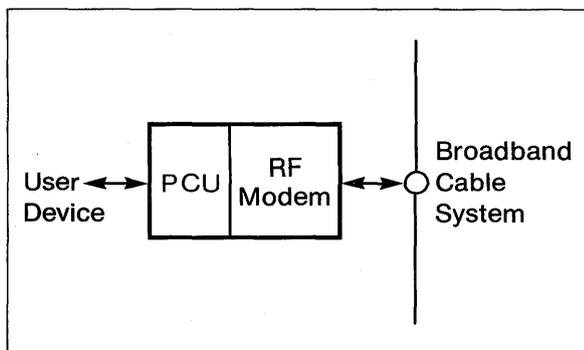

Figure 2-3. User Device Attachment
Broadband coaxial cable is the physical foundation of LocalNet. LocalNet divides the available bandwidth of the coaxial cable into a number of frequency division multiplexed channels which are allocated for low speed (LocalNet 20) and high speed (LocalNet 40) applications, as required. LocalNet PCUs transmit on the cable via radio frequency (RF) modems that convert the digital data stream to an FSK modulated analog signal. As illustrated in Figure 2-3, LocalNet modems are an integral part of each PCU.